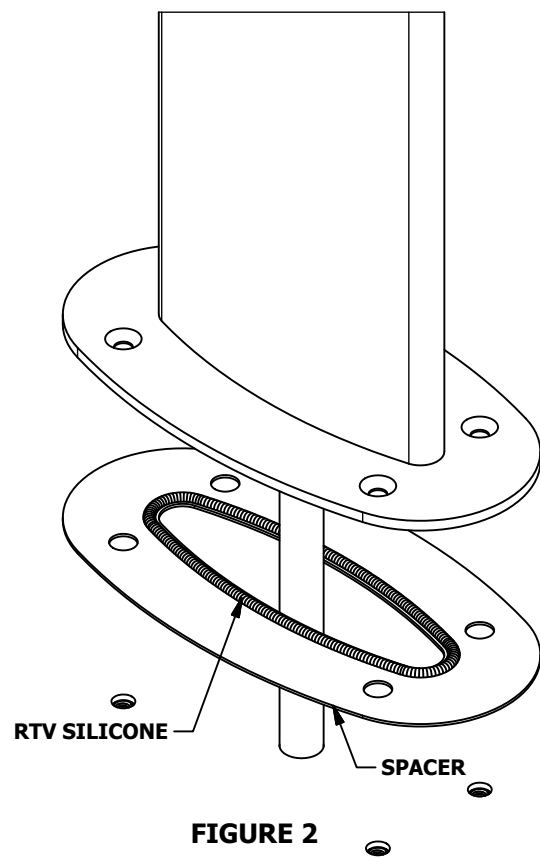

FIGURE 2
3) Apply a 1/4" thick bead of electrical grade RTV silicone on both sides of the spacer to ensure water tightness of the assembly. Place unit with the conduit assembled in to the center hole, ensure spacer is present (**Figure 2**)
4) Secure the unit to the floor with provided (4) screws and torque to 25 lbs.in.